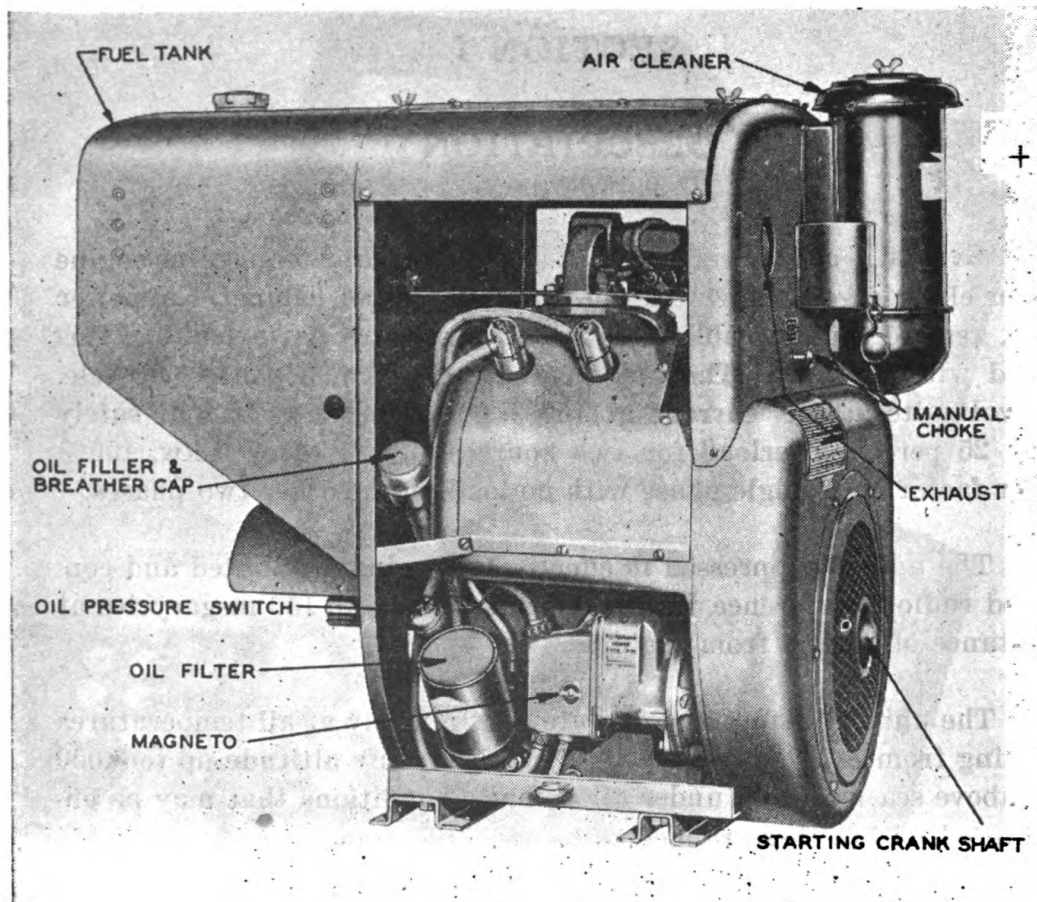

Figure 2.—Engine, Right Side, With Covers Removed
2. **Components.**—*a. Engine (fig. 2).*— The engine is a 4-cycle, air cooled, 4 cylinder, V type and has a 3 in. bore $3\frac{1}{4}$ in. stroke, 91.9 cubic inches piston displacement and is equipped with a high-tension magneto and impulse coupling. It develops 20.5 brake horse power at 2,200 rpm and operates on commercial 80 octane leaded gasoline or gasoline to U. S. Army specification No. 2-103. It will operate on approximately 2 gallons of gasoline per hour at full load. The unit is equipped with a $9\frac{3}{4}$ gallon fuel tank, diaphragm type fuel pump and a 3-way gasoline valve to which the 20 foot auxiliary fuel line may be attached for pumping fuel from a remote supply tank. A muffler and a 10 ft. flexible exhaust hose are provided to enable carrying the exhaust away from the unit.